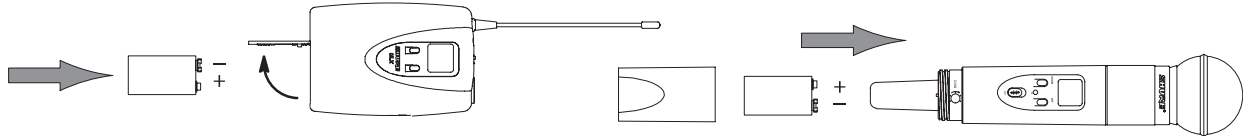

FIGURE 20
1. Open the battery cover and insert a fresh 9V alkaline or lithium battery, as shown in Figure 20.